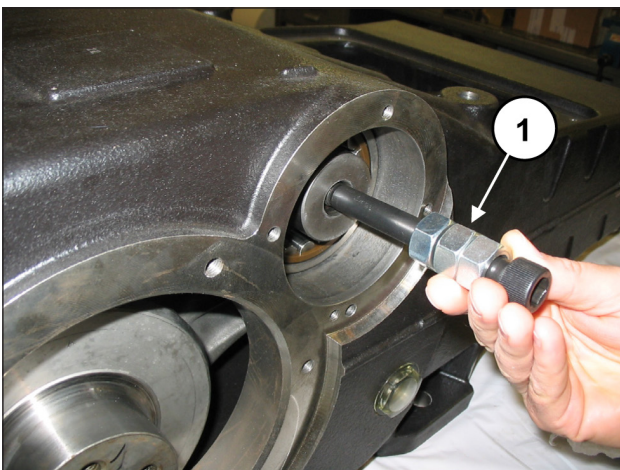

Fig. 57
It is easier to insert the PTO shaft completely inside the bearing by applying an M16 screw to the end of the shaft being inserted, to keep the shaft lifted up (pos. ①, Fig. 57).